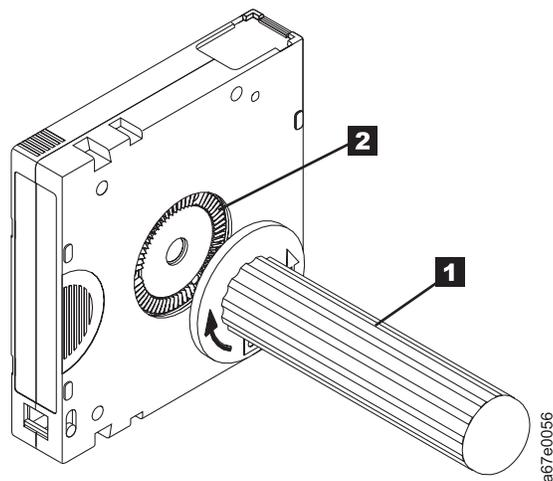

Figure 10. Rewinding the tape into the cartridge
5. To rewind the tape, insert the cartridge manual rewind tool (**1** in Figure 10) into the cartridge's hub (**2**) and turn it clockwise until the tape becomes taut.